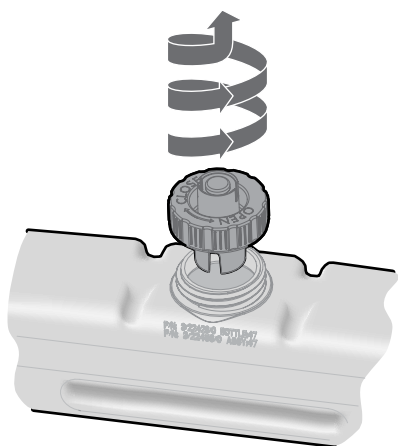

Fig.6
4. Place the water tank in sink and remove cap, Anti-clockwise to open. (See Fig.6)
The transducer is connector not connected properly. (See Fig.6)	Check that the connector is inserted correctly. (See Fig.6)